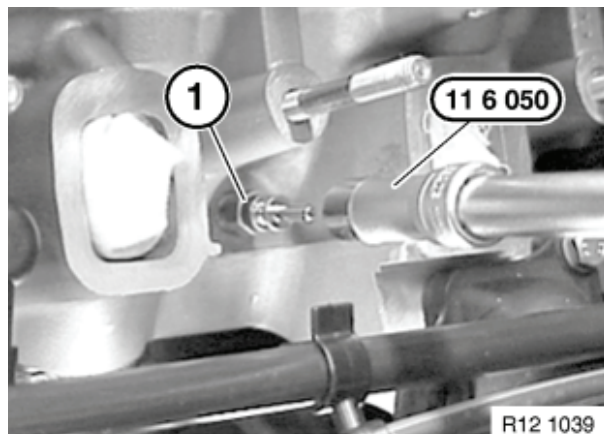

Figure 5-9
4. Use special tool OEM No. 11 6 050 to remove glow plug **(Figure 5-9, (1))** from cylinder head.